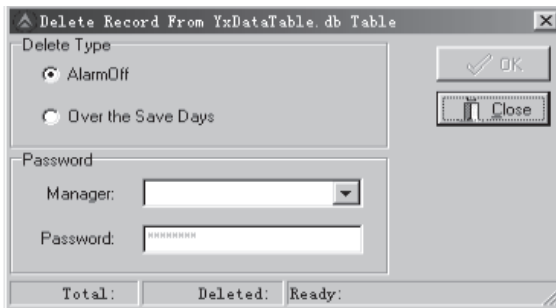

Fig. 7.6
C) Delete the Records of Alarm Off or Over the Save Days: Click **“Delete”**, and the dialogue block, as in Fig. 7.6, will be displayed on the interface.